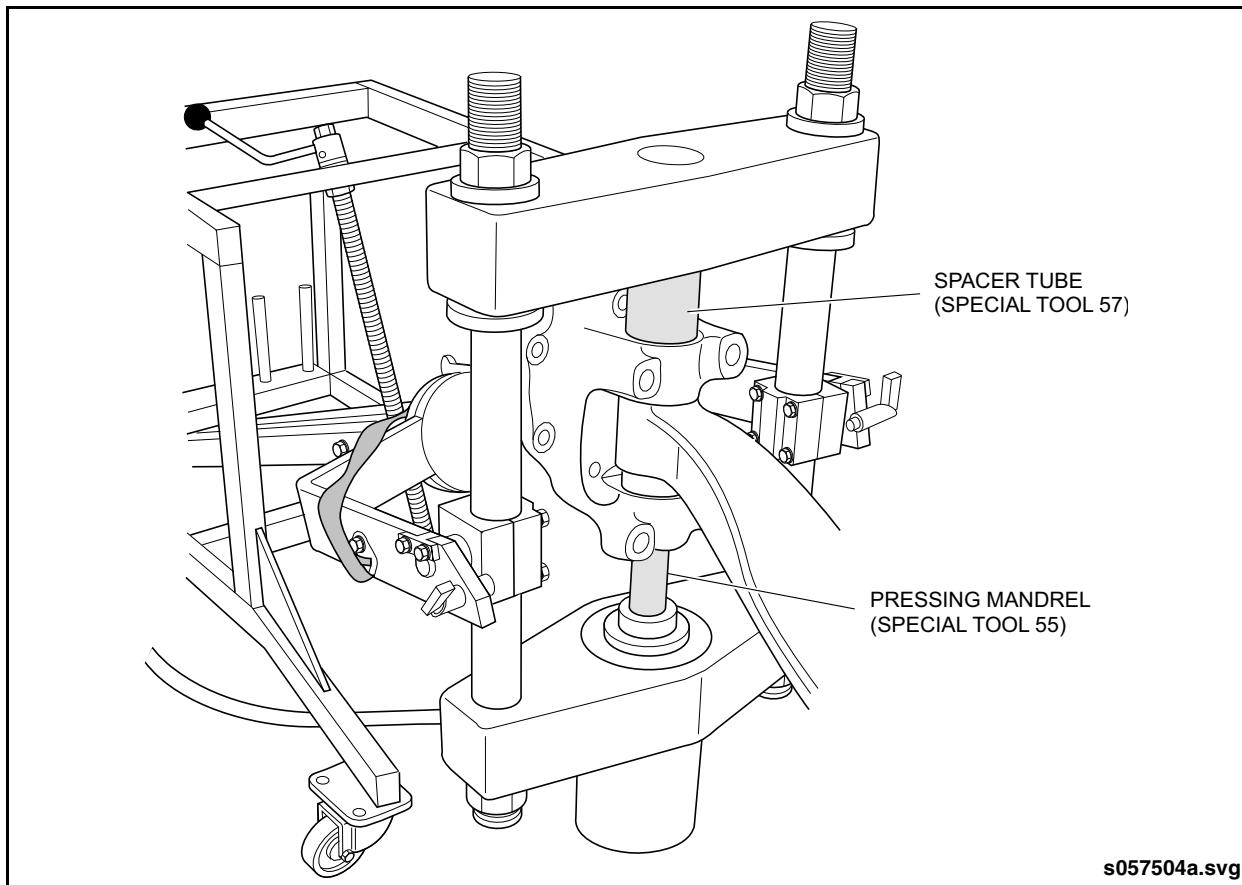

Fig. 1-26: King Pin Removal
18. Mount king pin press onto steering knuckle ensuring sleeve and mandrel are correctly aligned and press king pin up into spacer tube and out of knuckle. See "Fig. 1-26: King Pin Removal" on page 24.